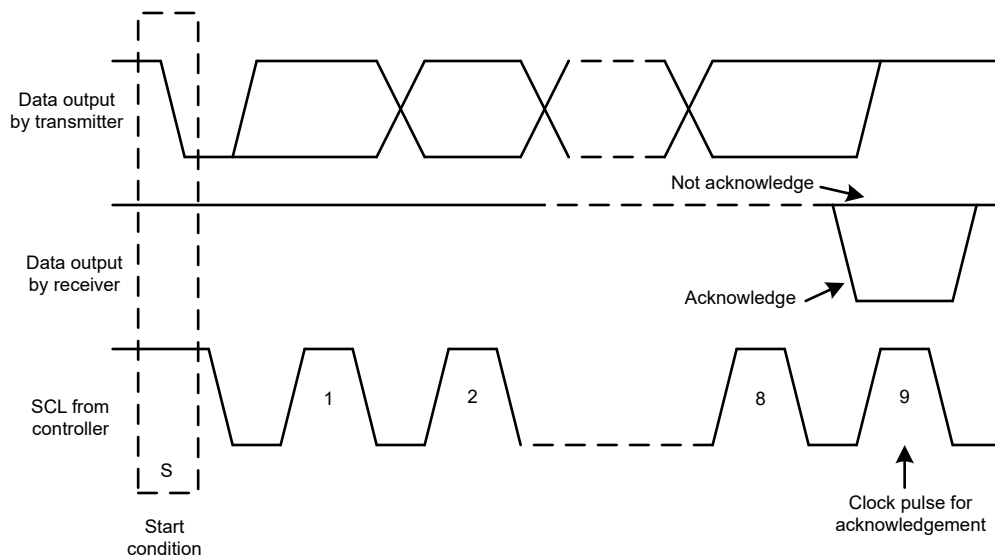
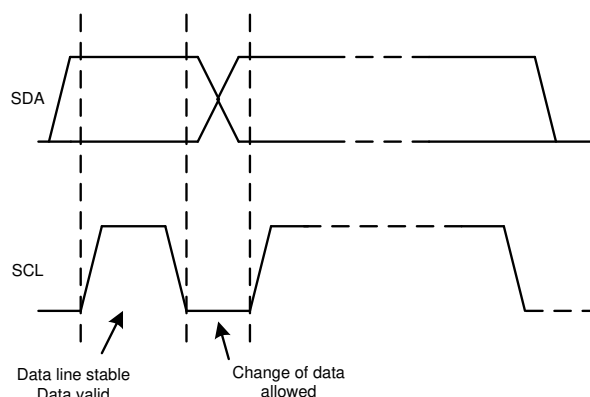

Figure 7-13. Acknowledge and Not Acknowledge on the I²C Bus
Figure 7-15. Bit Transfer on the I²C Bus
Other than specific timing signals, the I²C interface works with serial bytes. At the end of each byte, a ninth clock cycle generates and detects an acknowledge signal. An acknowledge is when the SDA line is pulled low during the high period of the ninth clock cycle. A not-acknowledge is when the SDA line is left high during the high period of the ninth clock cycle, as shown in Figure 7-13.
2. The controller then generates the SCL pulses, and transmits the 7-bit address and the read/write direction bit (R/\bar{W}) on the SDA line. During all transmissions, the controller makes sure that data are valid. A valid data condition requires the SDA line to be stable during the entire high period of the clock pulse, as shown in Figure 7-15. All devices recognize the address sent by the controller and compare the address to the respective internal fixed address. Only the target device with a matching address generates an acknowledge by pulling the SDA line low during the entire high period of the 9th SCL cycle, as shown in Figure 7-13. When the controller detects this acknowledge, the communication link with a target has been established.